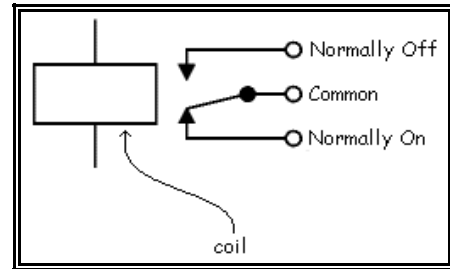

Figure 17
Relays use an electromagnet to flip their switches between the on and off position. The electromagnet is a coil which is powered by the controlling current. The magnetic field created by the coil causes the switch attached to the main current (the controlled current) to flip positions. This switch is a double throw switch (like in Figure 1). The control switch can be wired so that the coil can either turn the main switch on or off. One wire for the controlled circuit always is attached to the common lead of the relay. The other wire for the controlled circuit is attached to the Normally Open lead (NO) if the circuit is supposed to be off most of the time and only turned on by the controlling circuit. Alternately, the controlled circuit can be attached to the Normally Closed (NC) lead if the controlled circuit is supposed to be on most of the time (Figure 17).